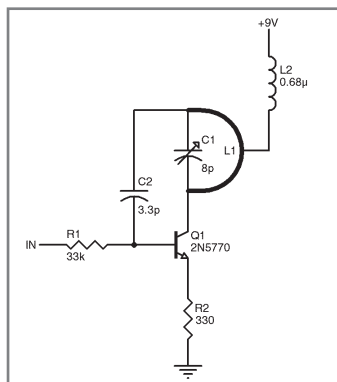

Figure 1—This is a typical 315-MHz transmitter.
A typical transmitter used for security devices, garage door openers, car locks, and remote controls is shown in Figure 1. At one point in time, the operating frequency was in the 27-MHz citizen band (CB). It was largely by necessity, as that band was available for use and transistors capable of operation at these frequencies were available at a reasonable price. The disadvantage of the low frequency was its 11-m (36.4’) wavelength λ . A $1/4 \lambda$ whip antenna would have been 2.75 m (9.1’) long—quite impractical for the intended purpose. Anything shorter than that meant a significant loss of antenna efficiency.